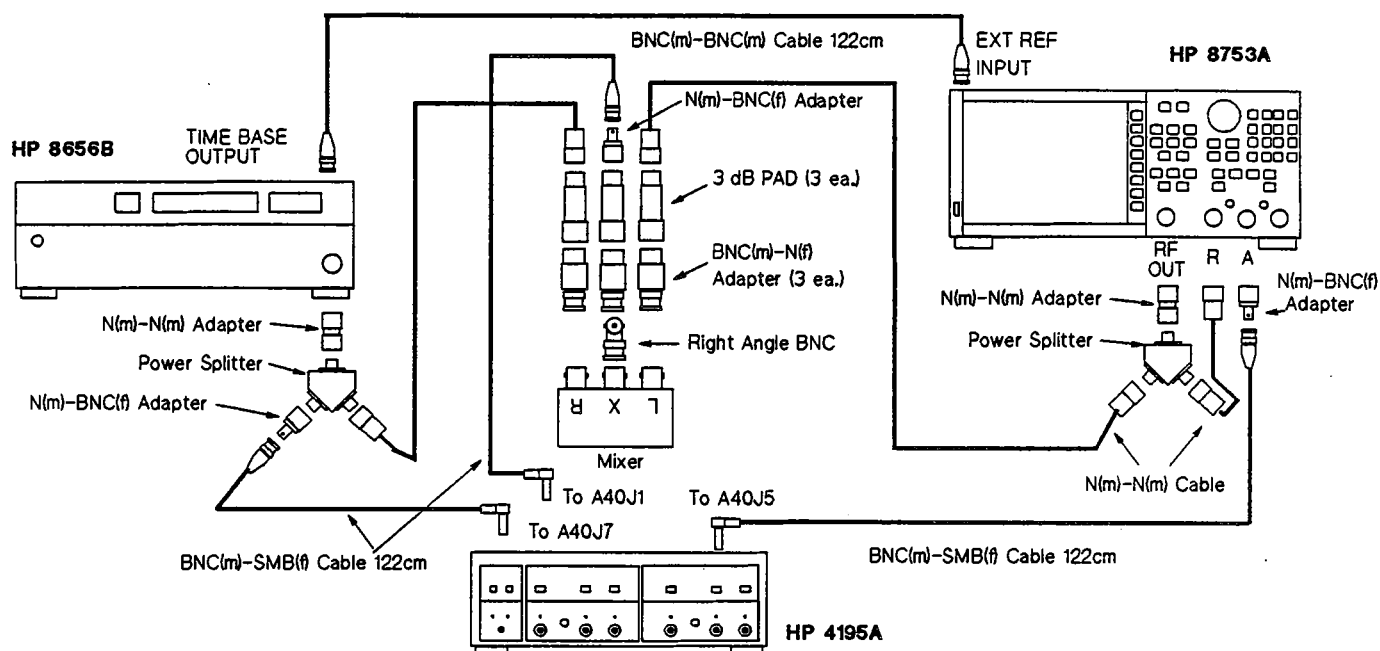
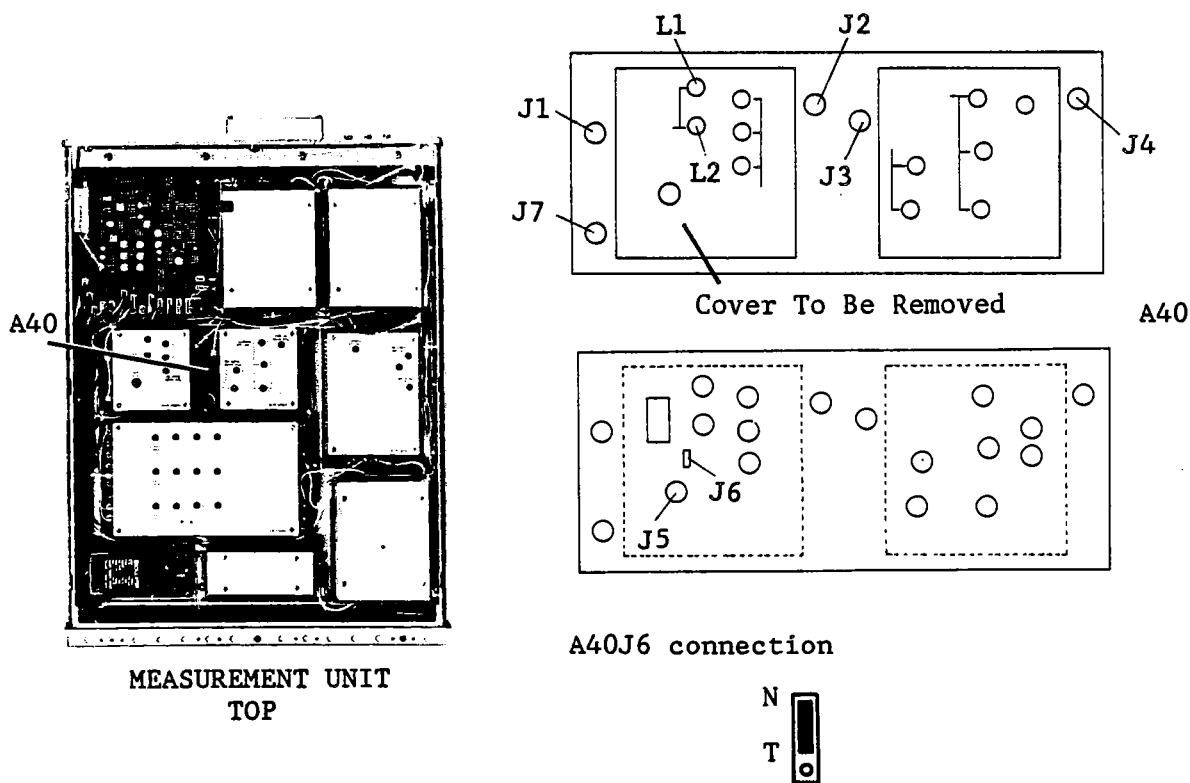

Figure 3-101. Source Second IF Converter First 86.6 MHz BPF Adjustment Setup
Figure 3-102. Source Second IF Converter First 86.6 MHz BPF Adjustment Locations
1. Remove one of the shield covers (PN 04195-00654) from the A40 board. See Figure 3-102 for the location of the A40 board and the cover to be removed.
2. Connect the equipment as shown in Figure 3-101. See Figure 3-102 for the locations of A40J1, A40J5, and A40J7.
3. Confirm that jumper A40J6 is connected to position "N" as shown in Figure 3-102.